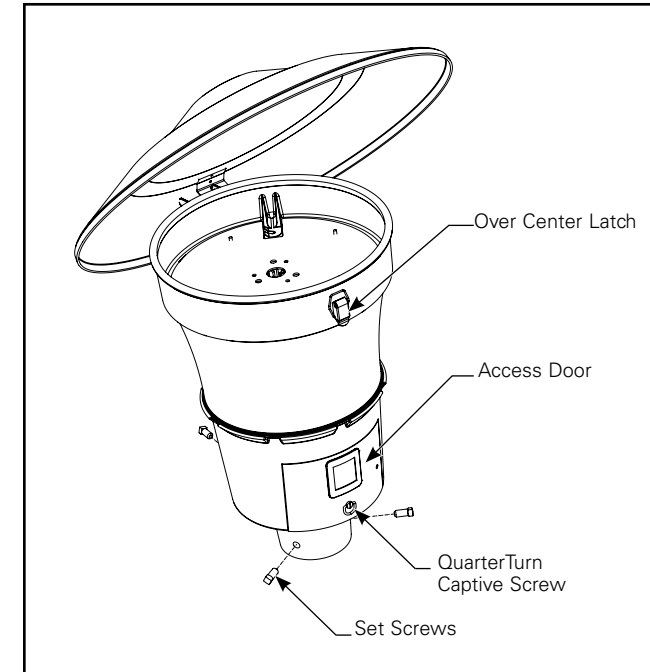
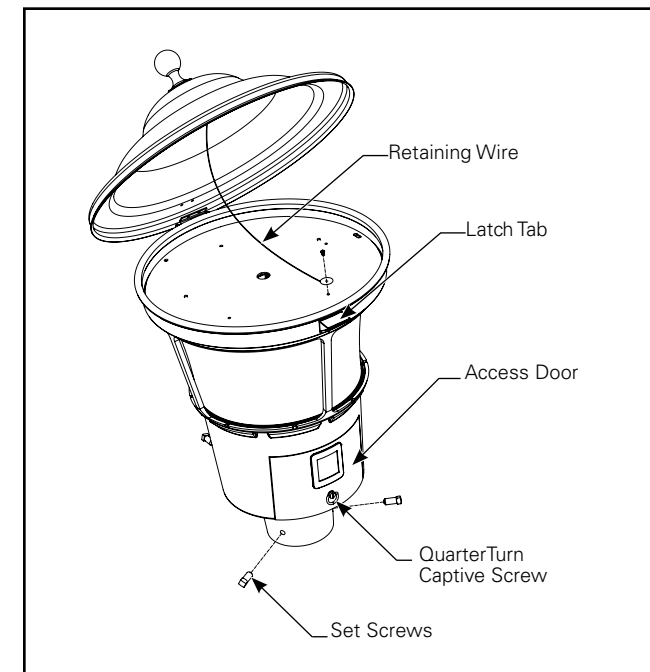

Figure 3.
Figure 4.
9. To complete construction, install hood. (Figure 3.) Place hinge on hood vertically onto pin on top of the fixture and ensure fit and free rotation. For MPB and MPN fixture, attach retaining wire to screw and tighten. (Figure 4 & 5)